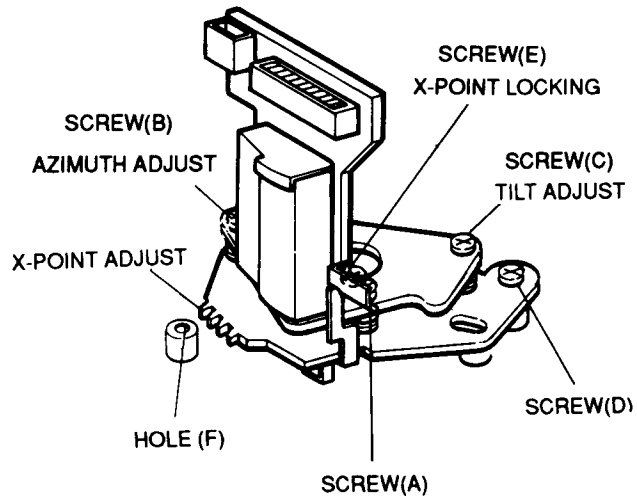

Fig. 4 Location of A/C Head Adjustment Screw
3. Turn screws(A), (B), (C) clockwise or counterclockwise until the gap of the lower tape edge and the lower edge of the control head is about 0.25 mm. (Refer to Fig. 4. and 5.)
3. Adjust screw (B) vertically to achieve maximum audio level. (See Fig. 4)
6. Turn the screw (E) counterclockwise (See Fig. 4).
7. Insert the adjusting driver in to the hole (F) of main base and adjust the A/C head ass'y so that envelope waveform is maximum amplitude and then tighten the screw (E).